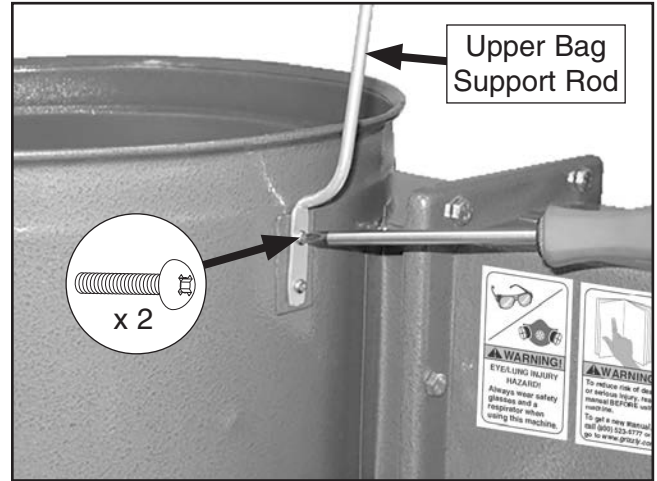

Figure 12. Attaching upper bag support rod to collector.
- Attach upper bag support rod to collector with (2) M4-.7 x 8 Phillips head screws (see **Figure 12**).